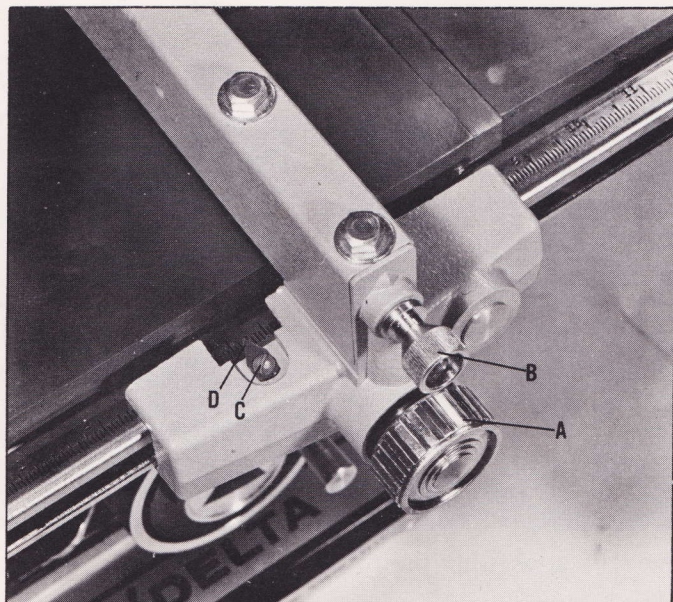

Fig. 5
To move the rip fence, loosen both front lock knob (A), and rear lock knob (B) Fig. 5. The fence can then be moved to the desired position on the guide rails.
If an adjustment to the pointer (D) Fig. 5, is necessary, loosen set screw (C) move the pointer to the correct position and tighten set screw (C).